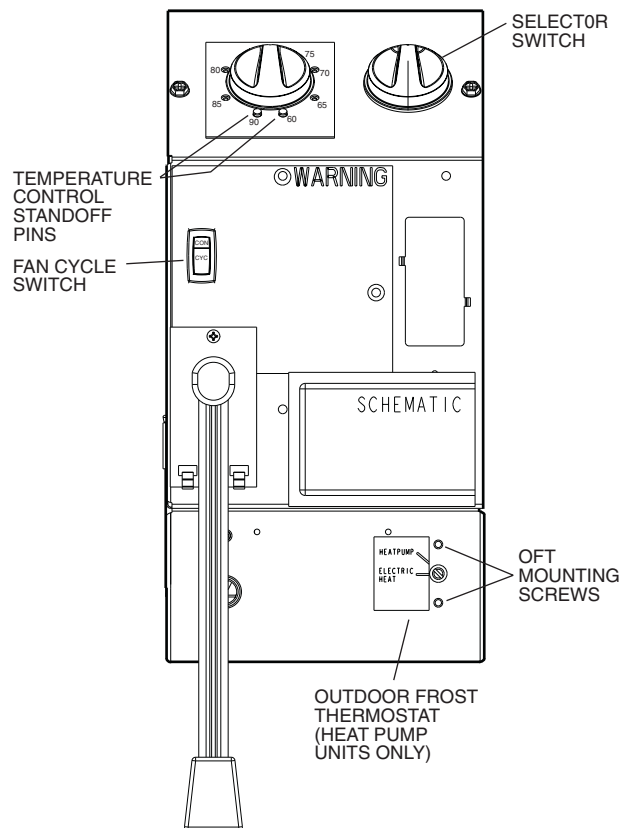

FIGURE 53 — 52C,P OPERATING CONTROLS
- Remove the 2 screws mounting the thermostat to the bottom of the control box. See Figure 53.
2. Remove selector switch knob. See Figure 53.